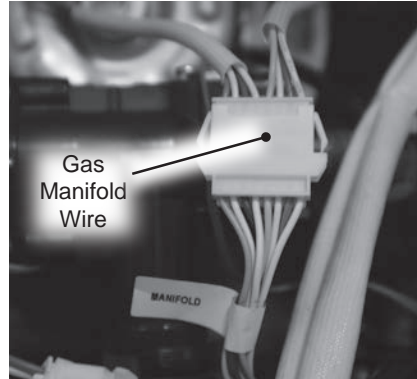

Figure 124 - Disconnecting gas manifold wire
- 12 Locate the gas manifold wire harness and disconnect it. See Figure 124.
- 27 Locate the gas manifold wire harness and connect it. See Figure 124.